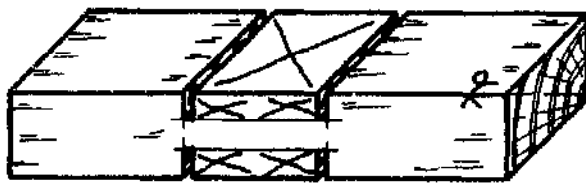

Fig. 6
- Carefully saw the shoulders down to the gauge line, sawing on the waste side of the line (Fig. 6).